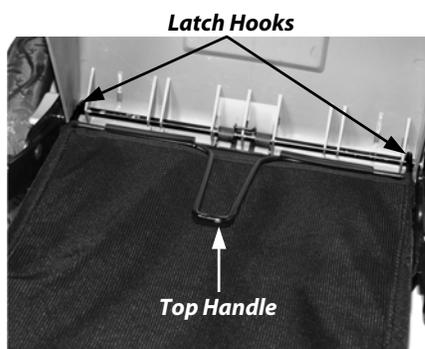
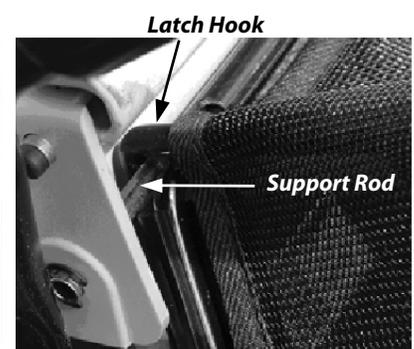

Figure 16
Figure 17
2. Grasp the Bagger by the Top Handle (**Figure 16**) and center it at the back of the Mower.
3. Align the Metal Latch Hooks (**Figure 16**) over the Support Rod (**Figure 17**) and lower the Bagger in place until the Wire Frame at the bottom of the Bagger rests on the Mower. Lower the Discharge Guard.